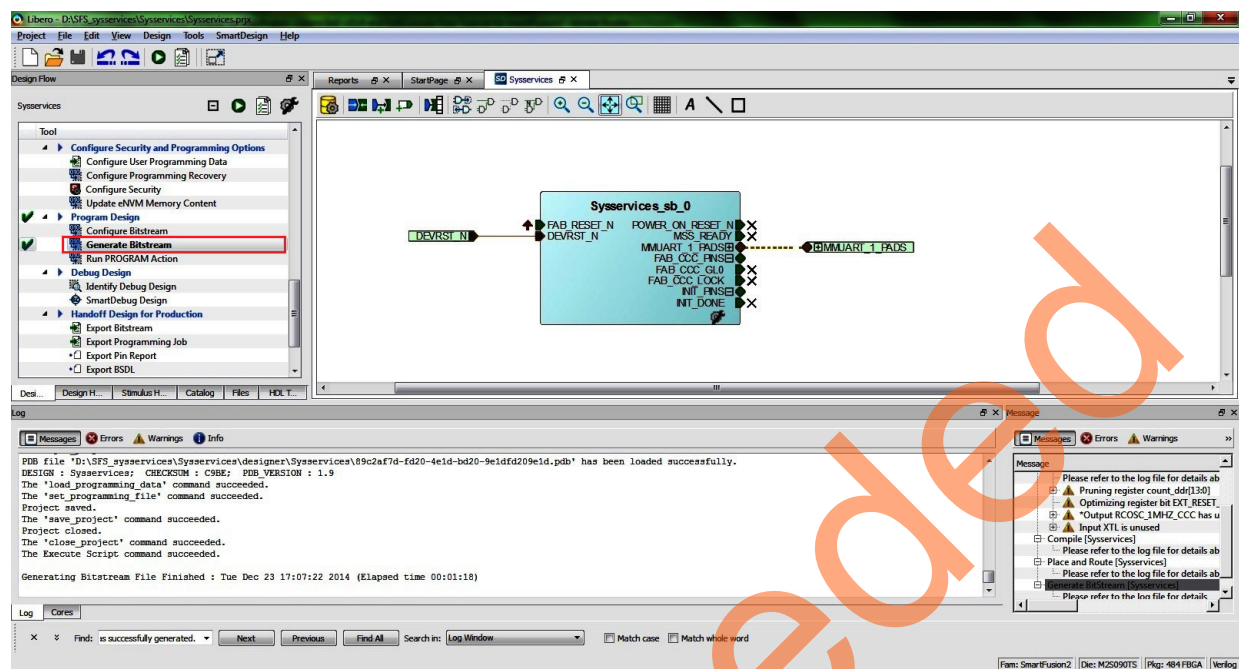

Figure 15 • Generate Bitstream Data
1. Click **Generate Bitstream** as shown in Figure 15 to complete place and route, and generate the programming file.